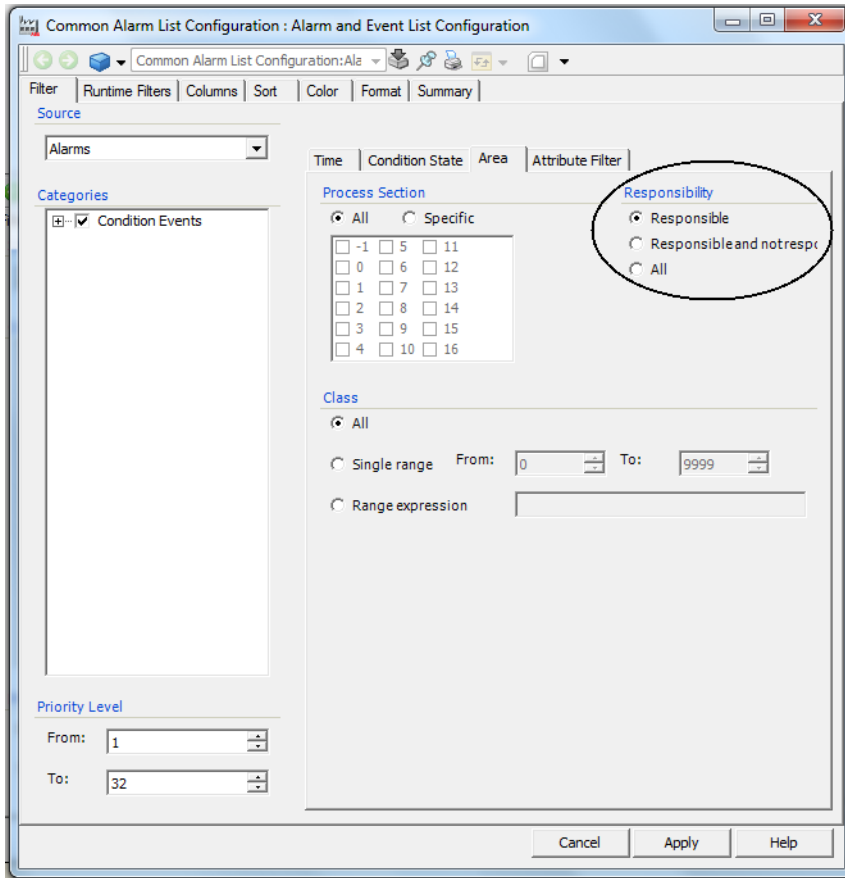

Figure 140. Alarm List Configuration
1. Select **Filter > Area** on the Main View of the aspect, refer to Figure 140.